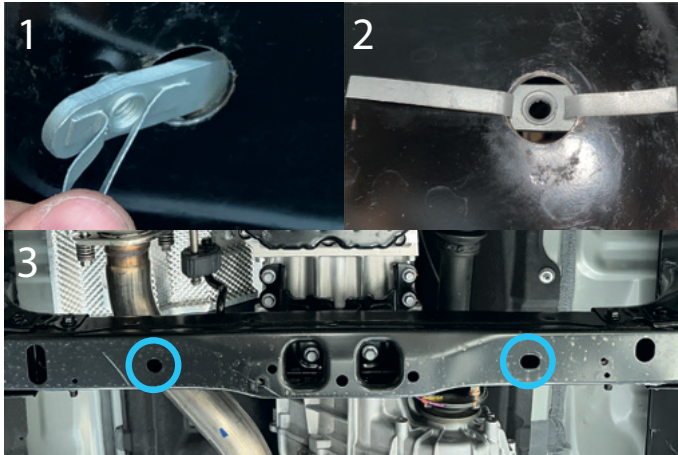

Fig. 10
10. Install insert nuts M8x70 (item A) as shown in fig.10.